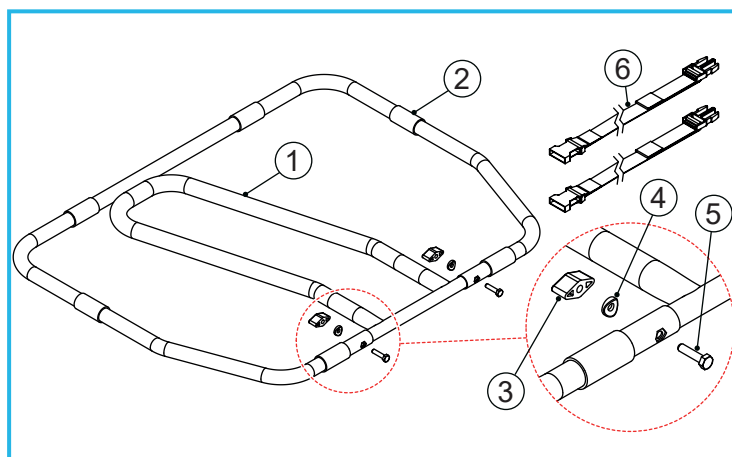

Figure 1: EasyFit Bed Rail Assembly
1. Refer to Figure 1. The bed rail handle (1) can be rotated in both directions, please make sure it is in the correct position for your installation.
2. Unscrew the two plastic wing-nuts (3), then remove the two plastic saddle-washers (4) and the two bolts (5).